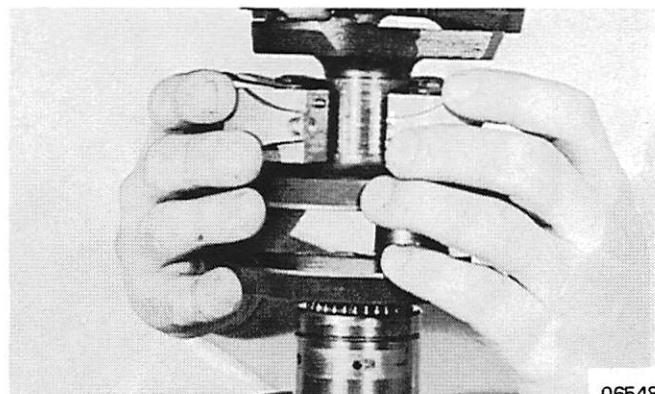

Figure 3. Removing and Installing Center Main Bearing Reed Cage
4. Install reed cage on crankshaft. (Figure 3) Tighten 2 integral screws securely on reed cage to assure tight fit.